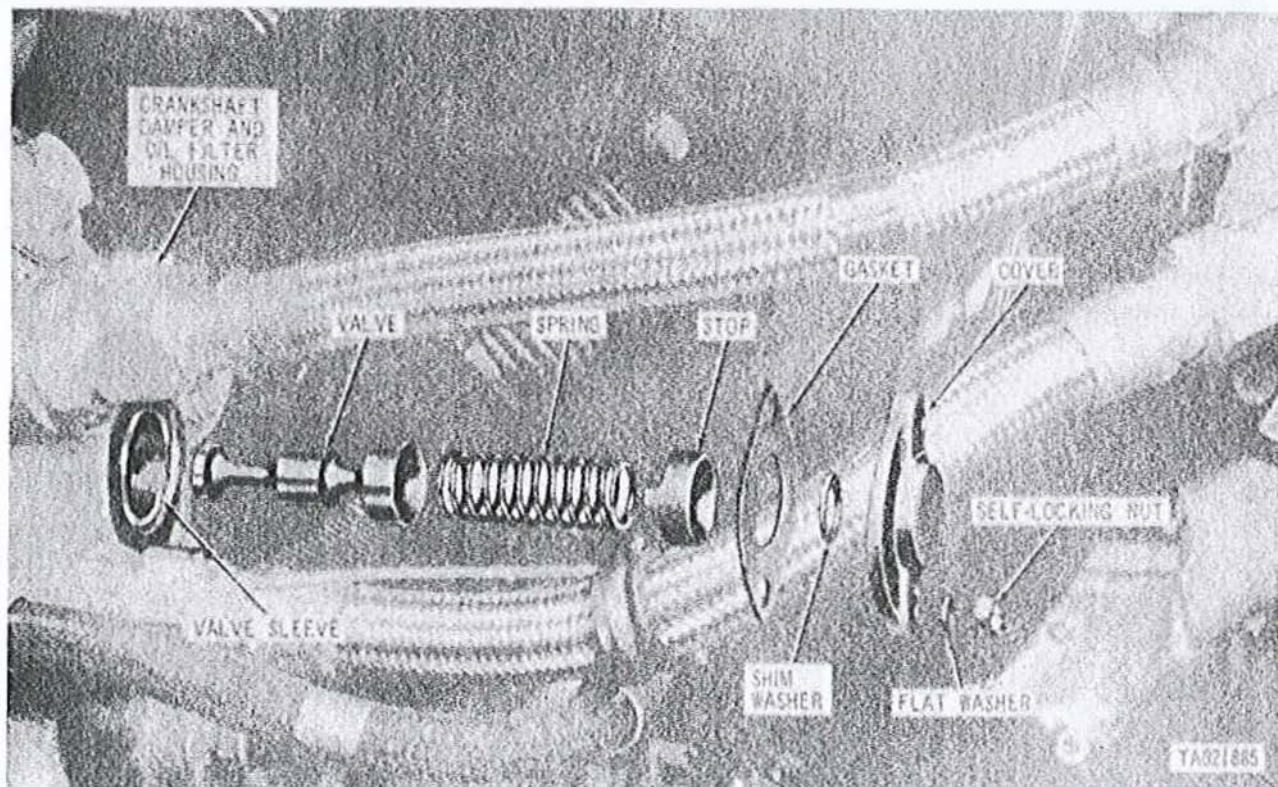

Figure 2-108. Removing or installing oil pressure regulator valve.
(1) Remove two self-locking nuts (fig. 2-108) and flat washers attaching cover to crankshaft damper and oil filter housing. Remove cover, shim washers and gasket. Remove and discard gasket.
(2) Remove stop, spring, valve, and valve sleeve.
(1) Install valve sleeve (fig. 2-108), valve, spring, and stop. Install shim washers and cover using new